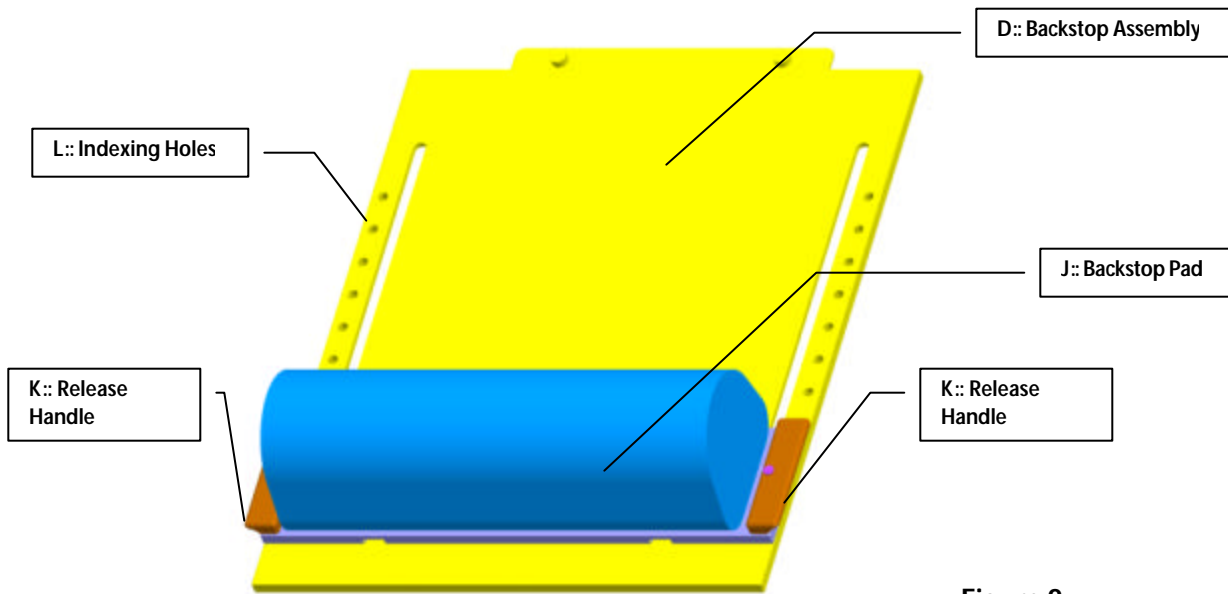

Figure 2
E:: Table Top	Figure 2
5. Move and Place O-ring hand positioning post (A) into the perimeter hole of your choice. These are labeled A through H.
7. Move the Backstop Pad (J) to the desired position by lifting and holding the release handles, then move the backstop pad (J) to the desired indexing hole (L) and press the release handles down with a slight back and forth movement to lock the pad into place. See Figure 2